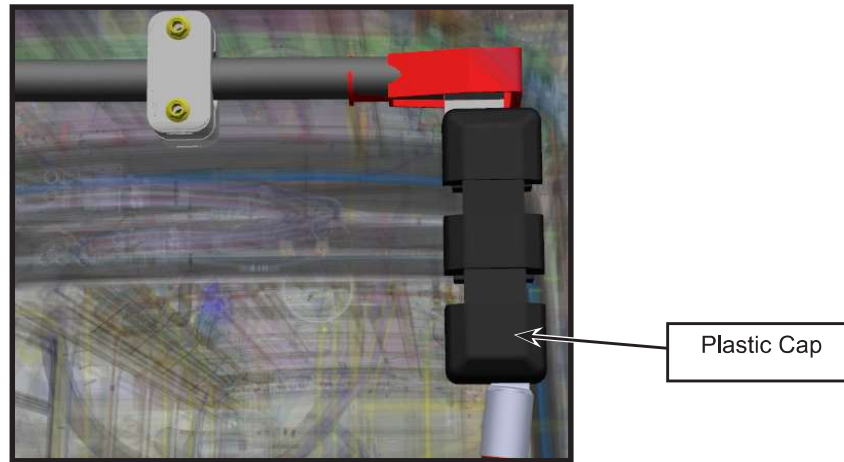

Figure 11 - Fuse Holder Black Plastic Cap
- 1.18. Remove the black plastic cap from the fuse holder located to the right of the engine box removed earlier (see figure 11).